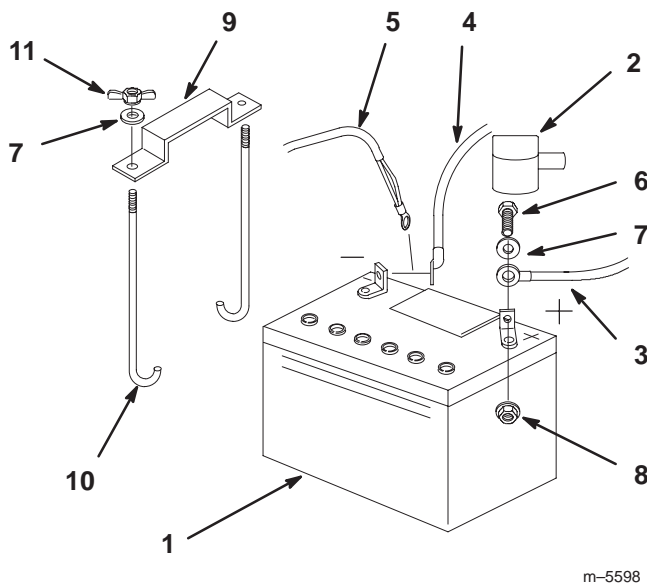

Figure 62
1. Position battery in tray with terminal posts toward the engine (Fig. 62).
4. Secure cables with 2 bolts (1/4 x 3/4 inch), 2 washers (1/4 inch), and 2 locknuts (1/4 inch) (Fig. 62).
6. Secure battery with J-bolts, hold down clamp and 2 washers (1/4 inch), and 2 wing nuts (1/4 inch) (Fig. 62).
3. First disconnect the negative battery cable and ground wire from the negative (–) battery terminal (Fig. 62).
4. Slide the red terminal boot off the positive (red) battery terminal. Then remove positive (red) battery cable (Fig. 62).
5. Remove both wing nuts (1/4 inch) securing the battery clamp (Fig. 62).